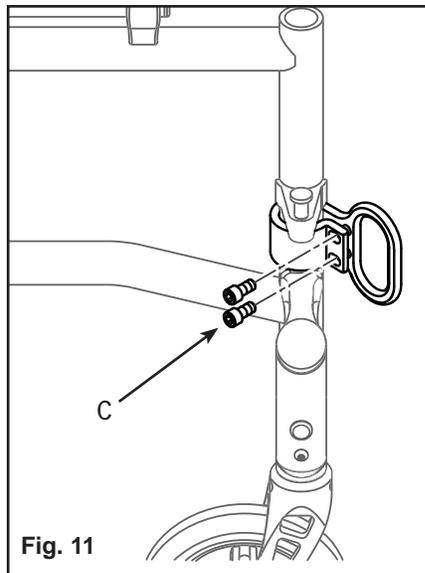

Fig. 11
12) Rotate the assembly to a 45 degree angle with the Transit Loop pointing out (Fig.11).